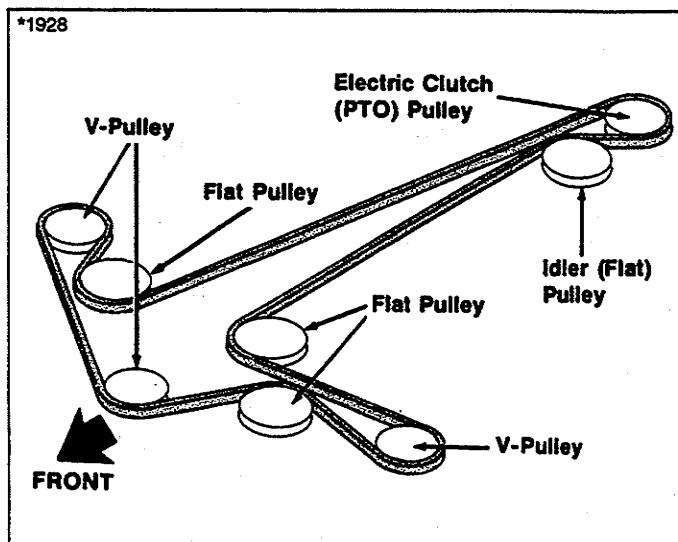

Figure 43. Mower Belt Routing
7. Remove belt from mower deck and replace with a new belt. Check belt pattern as shown in figure 43.